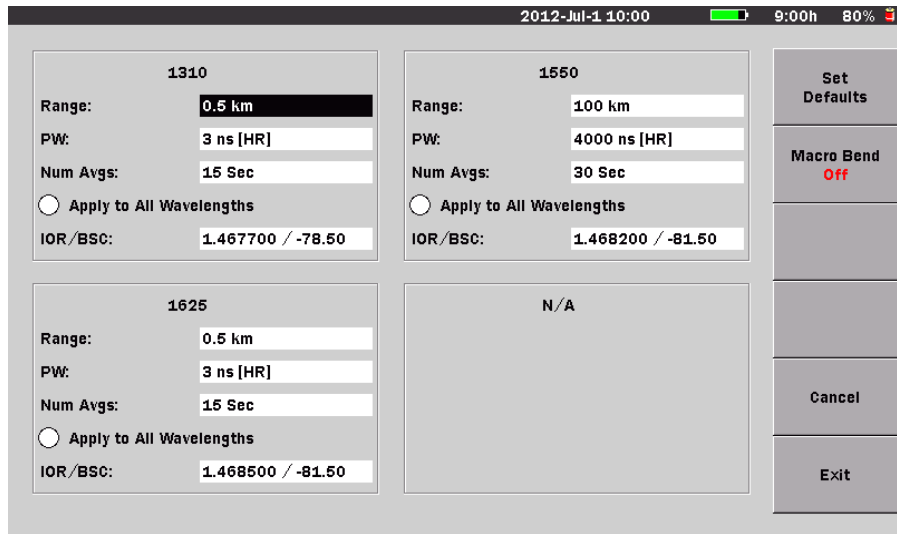

Figure 4-28: OTDR Parameters Screen
When the **Wavelength** softkey (**f3**) is set to “All”, the **f4** softkey legend changes to “Test Parameters”. Pressing **Test Parameters (f4)** displays the OTDR Parameters screen (see Figure 4-28 on page 4-80) which contains access for the following test parameter settings:
- With the Wavelength softkey (f3) set to **Wavelength All**, press **Test Parameters** (f4). The OTDR Parameters screen (see Figure 4-28 on page 4-80) appears.